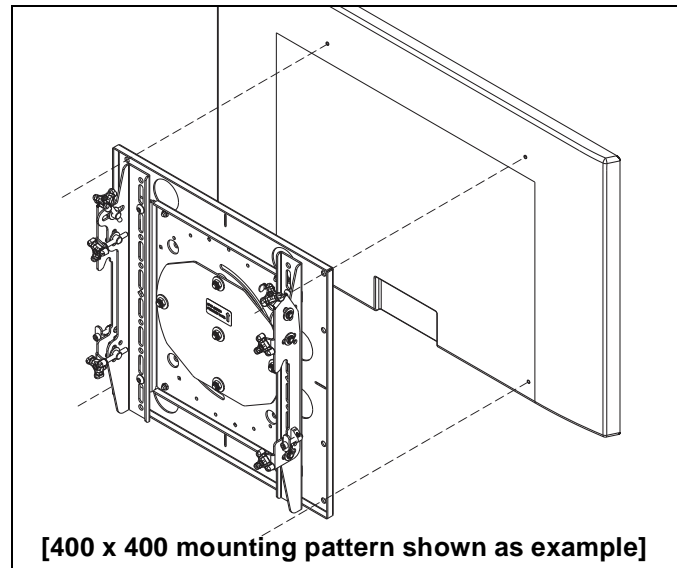

Figure 3
3. Attach display to FRA (A) using hardware included with mounting system, and following installation instructions included with the mounting system. (See Figure 3)